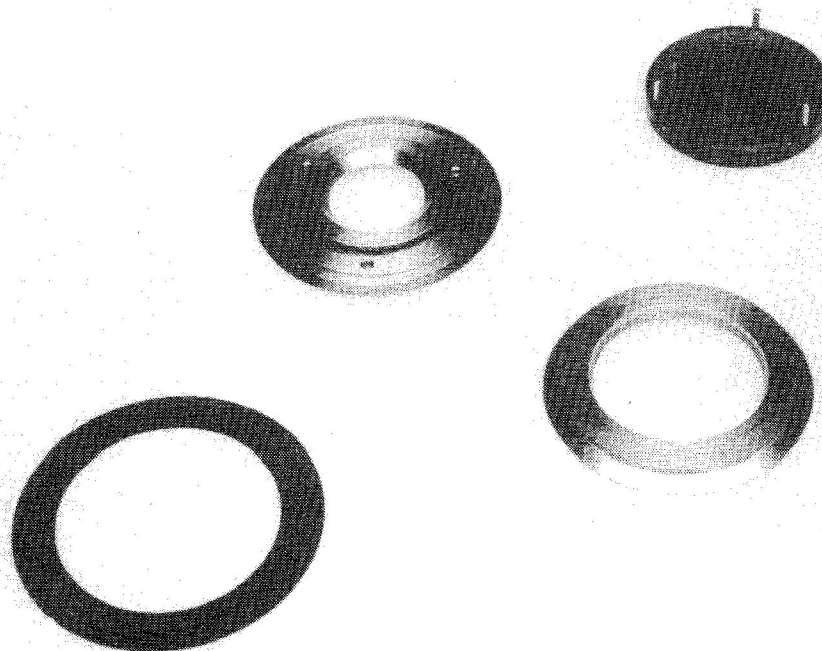

Figure 3-5: 40-mm ID Hubless Blade, with Adapter and Disassembly Tool
Mounting 40-mm blades is similar to mounting one-inch blades. However, a different tool is needed for these blades. Figure 3-5 shows a disassembled adapter and blade, and the disassembly tool. The disassembly tool for 40-mm ID adapters is a Model RT40, Micro Automation part number 11007480.
- o Place the hub on a clean, flat surface with the flat side down, as shown in Figure 3-5.